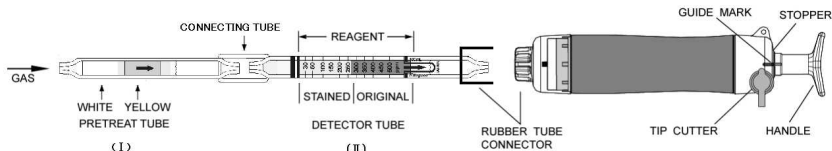

Fig.1
- ① Break both ends of the pretreat tube (I) and detector tube (II), and connect each end of the pretreat tube (I) and detector tube (II) with connecting tube as shown in Fig. 1.
- ② Insert the detector tube (II) into the aspirating pump securely as shown in Fig.1. (Arrow mark shall point to the pump.)
- ③ Align the guide marks on the shaft and stopper of the aspirating pump.
- ④ Pull the pump handle at a full stroke until it locks and wait for 2 minutes or until the completion of sampling is confirmed with the flow indicator of the pump. (See descriptions about the flow indicator in the instruction manual of the pump.)
- ⑤ On completion of sampling, read the scale at the maximum point of the stained layer.
① Temperature; Correct the tube reading by following temperature correction table.